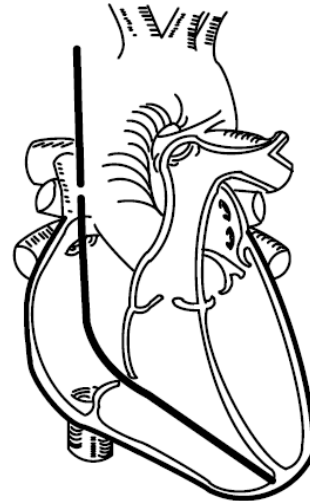

Figure 11
- Remove the stylet completely. Adjust the lead so that it lies in the desired position in the ventricle (Figure 11)